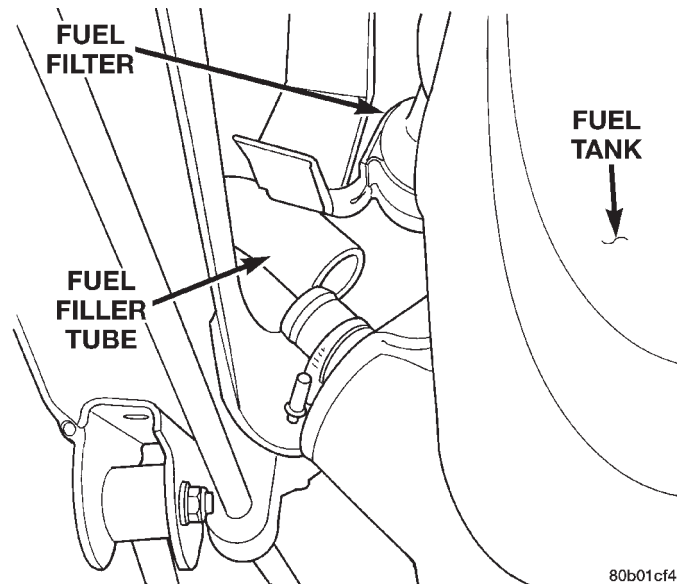

Fig. 12 Fuel Filler Tube
(5) Loosen and remove fuel filler tube from fuel tank (Fig. 12).